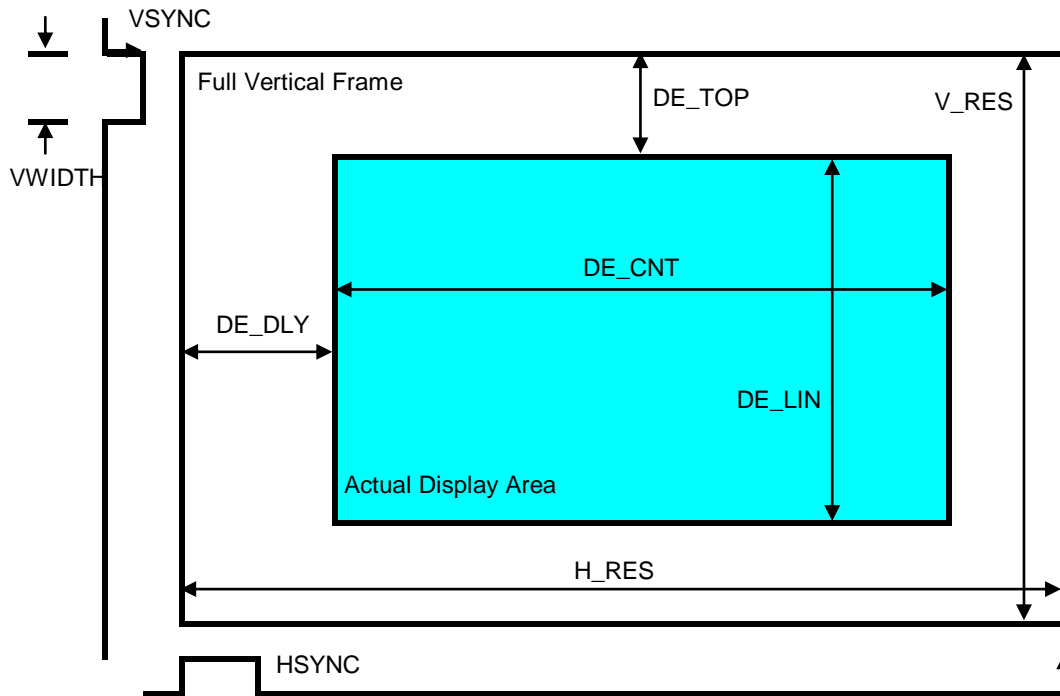

FIGURE 7. DE GENERATOR MEASUREMENTS
The HDMI Transmitter provides an internal Data Enable (DE) generator for use when the attached video source does not provide a DE signal with the other video signals. The DE signal is needed for encoding the TMDS output of the HDMI Transmitter. A DE signal is generated for use by the Transmitter, based on the values in the DE Generator registers and the arrival times of the HSYNC and VSYNC pulses from the video source. This DE signal is included in the control data sent to the HDMI Receiver across the link. The DE Generator registers are used only for DE generation. The registers are shown diagrammatically in Figure 7. The vertical sync pulse (VSYNC) occurs in the top area of the frame, before the active video area. The active (leading) edge is shown with an arrow. The horizontal sync pulse (HSYNC) occurs every line before the active video area during the DE\_DLY time. The active (leading) edge of HSYNC is shown with an arrow.
Figure 7 shows the HWIDTH and VWIDTH dimensions relative to the complete frame time.